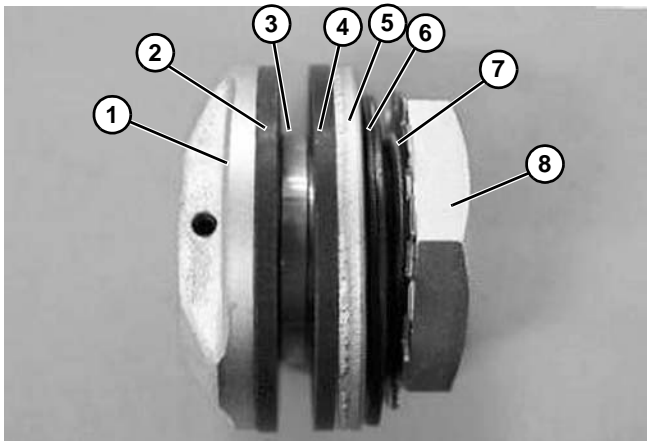

Figure 113
- Prevent damage to the products on the conveyor (See Figure 113.)